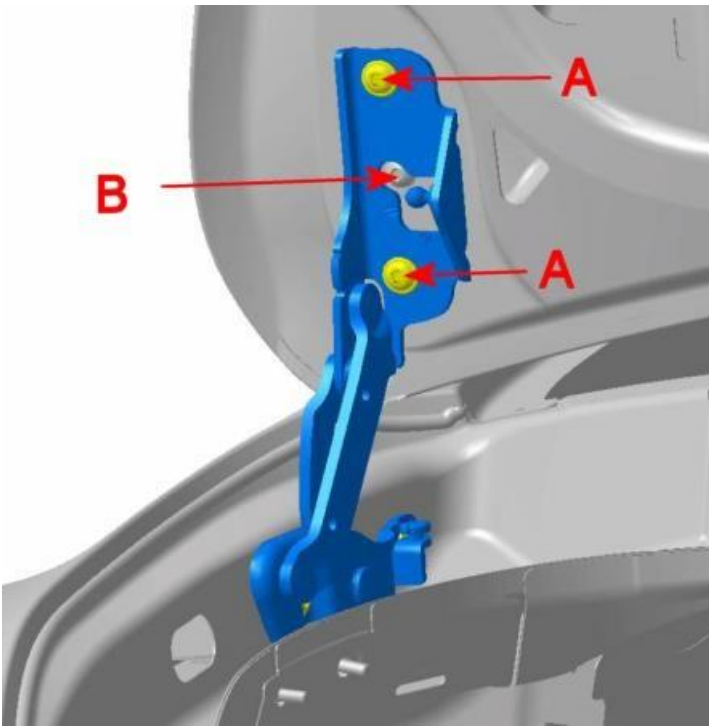
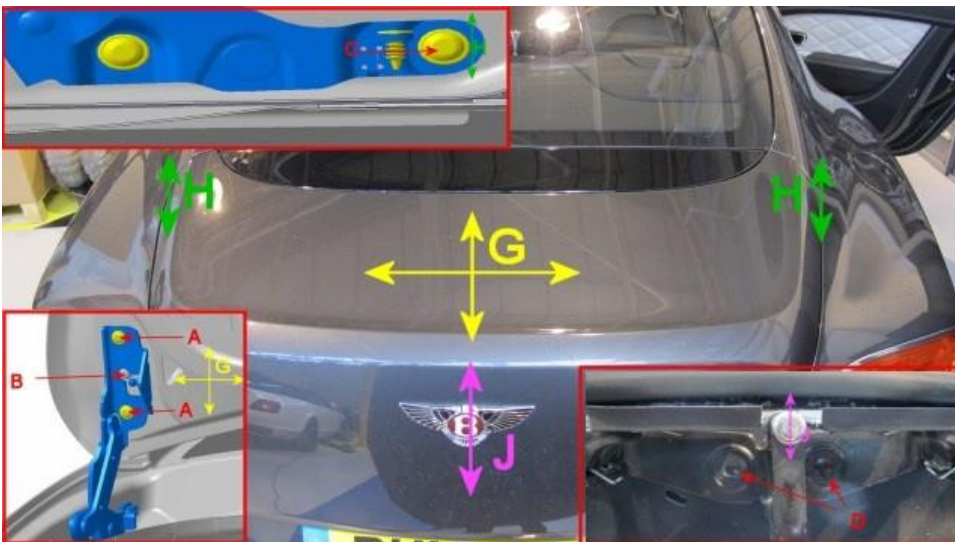

Figure 13
Figure 14
All Cars - Slacken the fasteners (A) securing the boot lid - figure 13.
Note: Do not slacken fastener B at this time. Allow the hinges to “float” ensuring that left and right hinges are not working against each other and operate in same plane without undue resistance. Re-tighten the four fasteners (A) 20Nm + 2 – figure 13.
Boot Adjustments - Reference Figure 14
– (H) Adjustment in height profile adjacent to the rear screen is achieved at the forward, nearest the rear screen, part of the hinge, slacken both hinge fasteners but make adjustments primarily around fastener (C) to raise or lower at point (H) – figure 14. Re-check hinge to maintain gauge setting - figure 12 (GT) figure 13 (GTC)
– (J) Adjustment in height profile at the rear of the boot lid is achieved at the striker plate, slacken both fasteners (D) then raise or lower at point (J) – figure 14.
– (G) To achieve panel gaps the boot lid surface can be moved in both axis at the hinge / boot lid connection, slacken fastener (B) and fasteners (A) to release the captive plate to allow adjustment – figure 14.